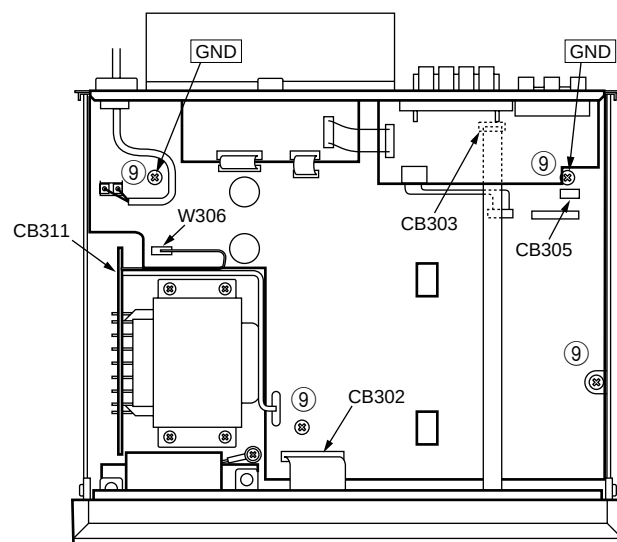

Fig. 6
- Remove 4 screws (⑨). (Fig. 6)
- Connect **GND** (x4 in Fig. 6, 7) to the main chassis by using a lead wire.